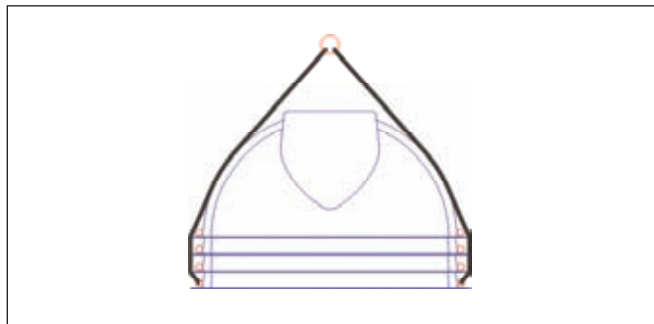

FIGURE 3-3
3.5.6. Never lift more than four half-shells per lift. (See FIGURE 3-3.)